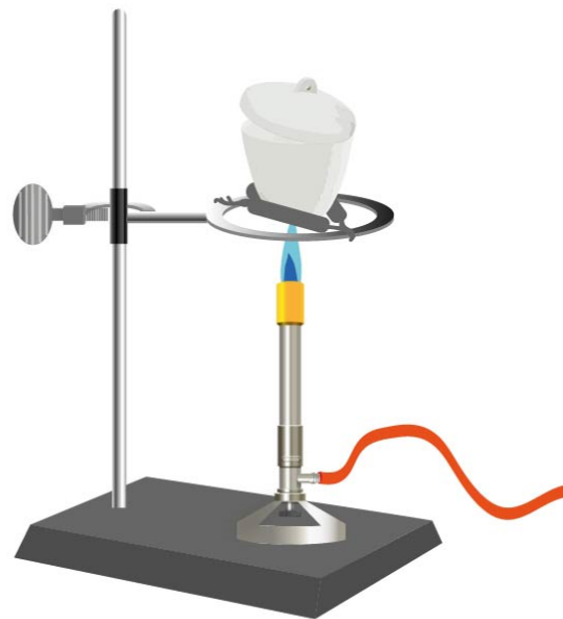

Figure GA.6: Appropriate set up for heating a crucible with a Bunsen burner.
6. Take your stand, ring clamp and Bunsen burner over to a **fume hood**. Place your clay triangle on the ring and the crucible in the clay triangle for support as shown in Figure GA.6. Gently heat the crucible without the lid to remove the water. Once the paper appears to be dry (after several minutes), heat the crucible more vigorously so that the filter paper begins to char (turning from white, to brown, to black) – but not so vigorously that the filter paper bursts into flame. If the filter paper bursts into flame you should cover it with the crucible lid to put out the flame, then reduce the amount of heat and remove the lid. Continue to heat moderately with the lid off until all of the filter paper has turned black.